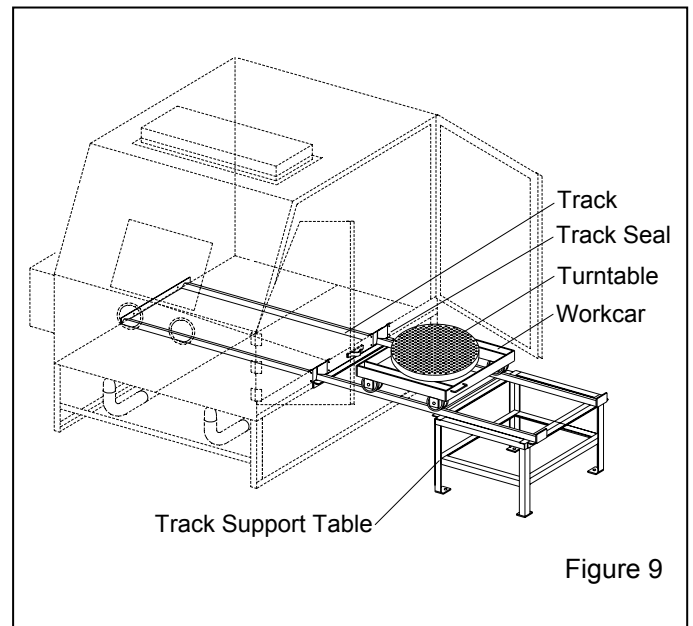

Figure 9
3.4.1.1 These instructions cover field installation for 500 lb. capacity workcar and track assemblies. If the track was ordered with the cabinet, it is partially assembled at the factory. Disregard the instructions that do not apply. See Figure 9 for arrangement of the major components.
3.4.3.2 Being careful not to damage the track seals, lay the track assembly in the cabinet as shown in Figure 9. Align the mounting holes in the track support table with the track cross supports as shown in Figure 11, Secure with 3/8-NC x 1" cap-screws, lock-washers, and nuts.